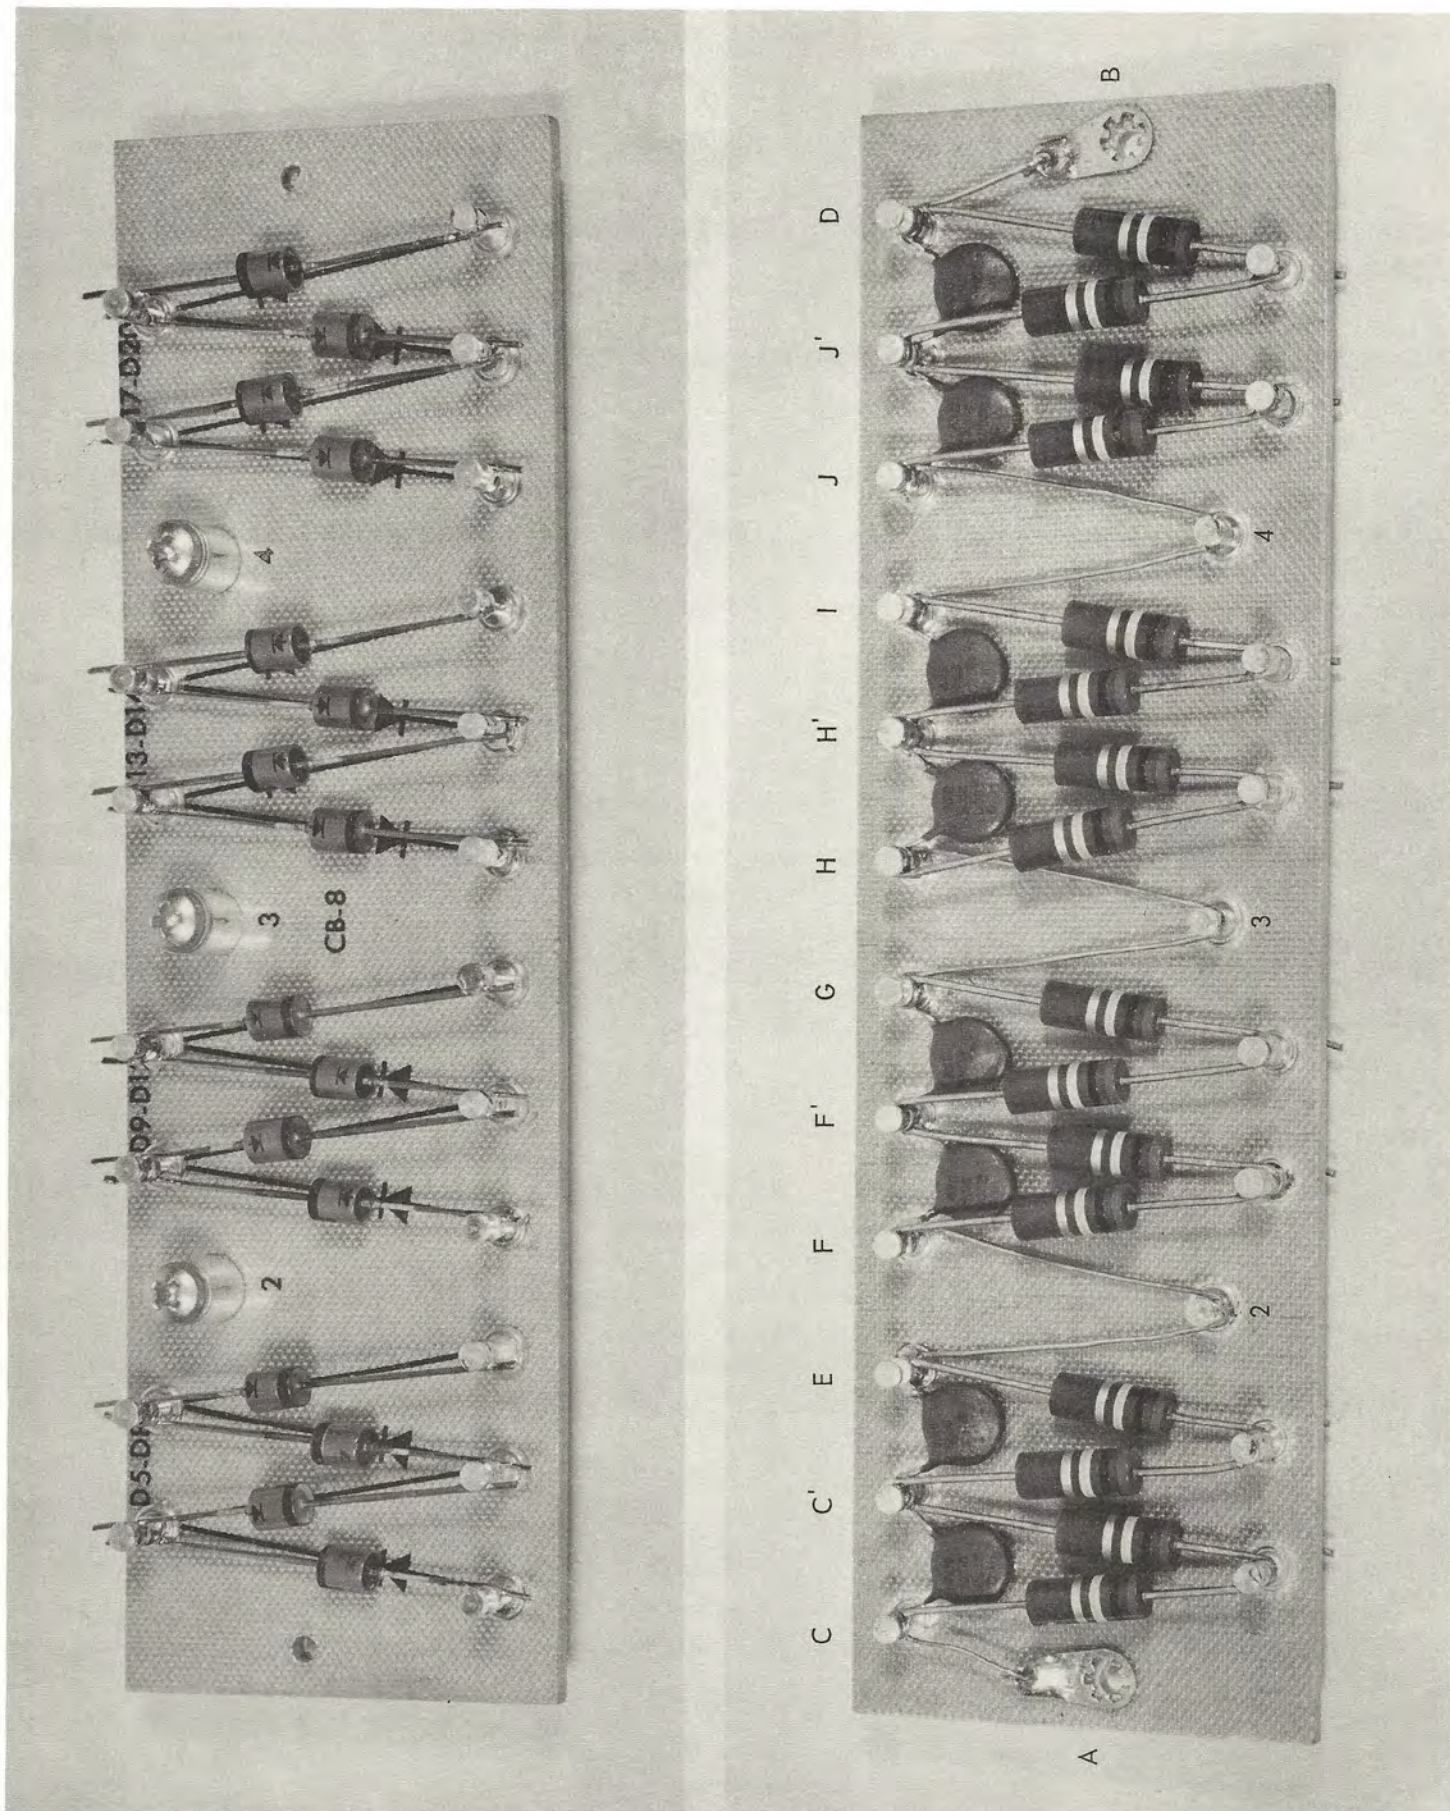

FIGURE CB-8
Refer to Figure CB-8
- (✓) 7. Install the 16 100k 1w resistors. Stagger as shown on Figure CB-8. Use the top of the terminal barrel to mount the resistors. After the resistors are mounted, solder each terminal on the bottom of the board carefully.